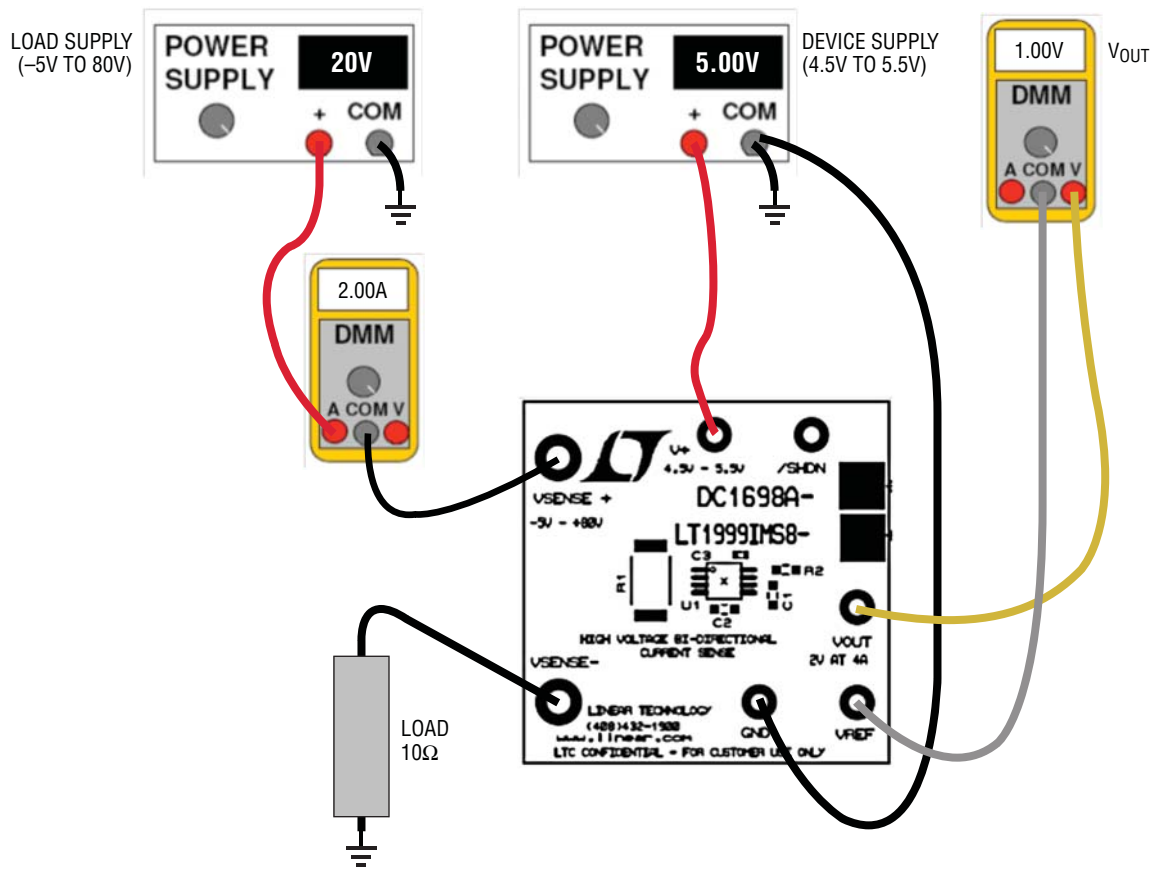

Figure 1. Proper Measurement Equipment Setup
Demonstration circuit 1698 is easy to set up and evaluate the performance of the LT1999. Refer to Figure 1 for proper measurement equipment setup and follow the procedure:
2. With power off, connect the load to the  $V_{SENSE}^-$ . If the load power source does not have accurate current readout a DMM may be connected in series with the load as shown in Figure 1.